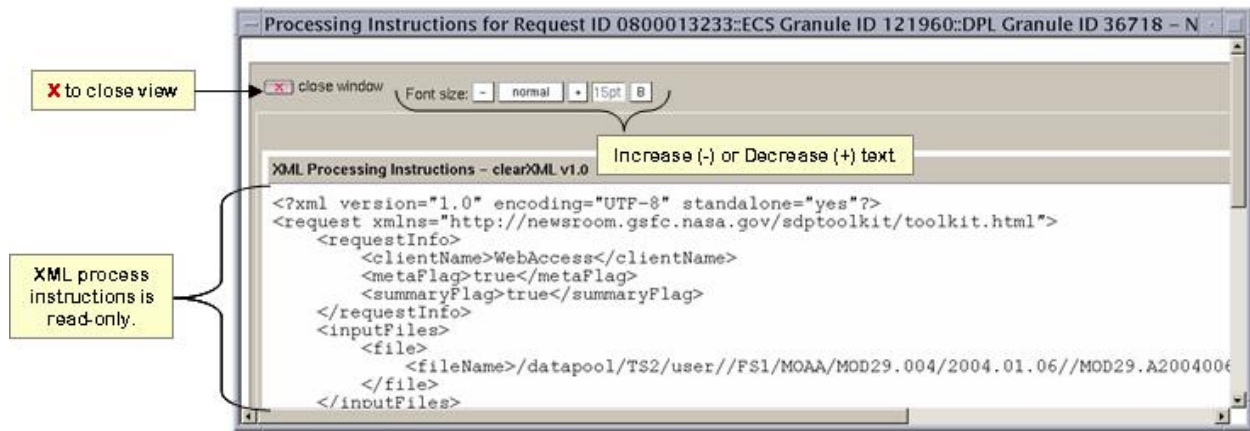

Figure 15.6-16. Processing Instructions Window
- The **Processing Instructions for Request ID** <number> displays (Figure 15.6-16).